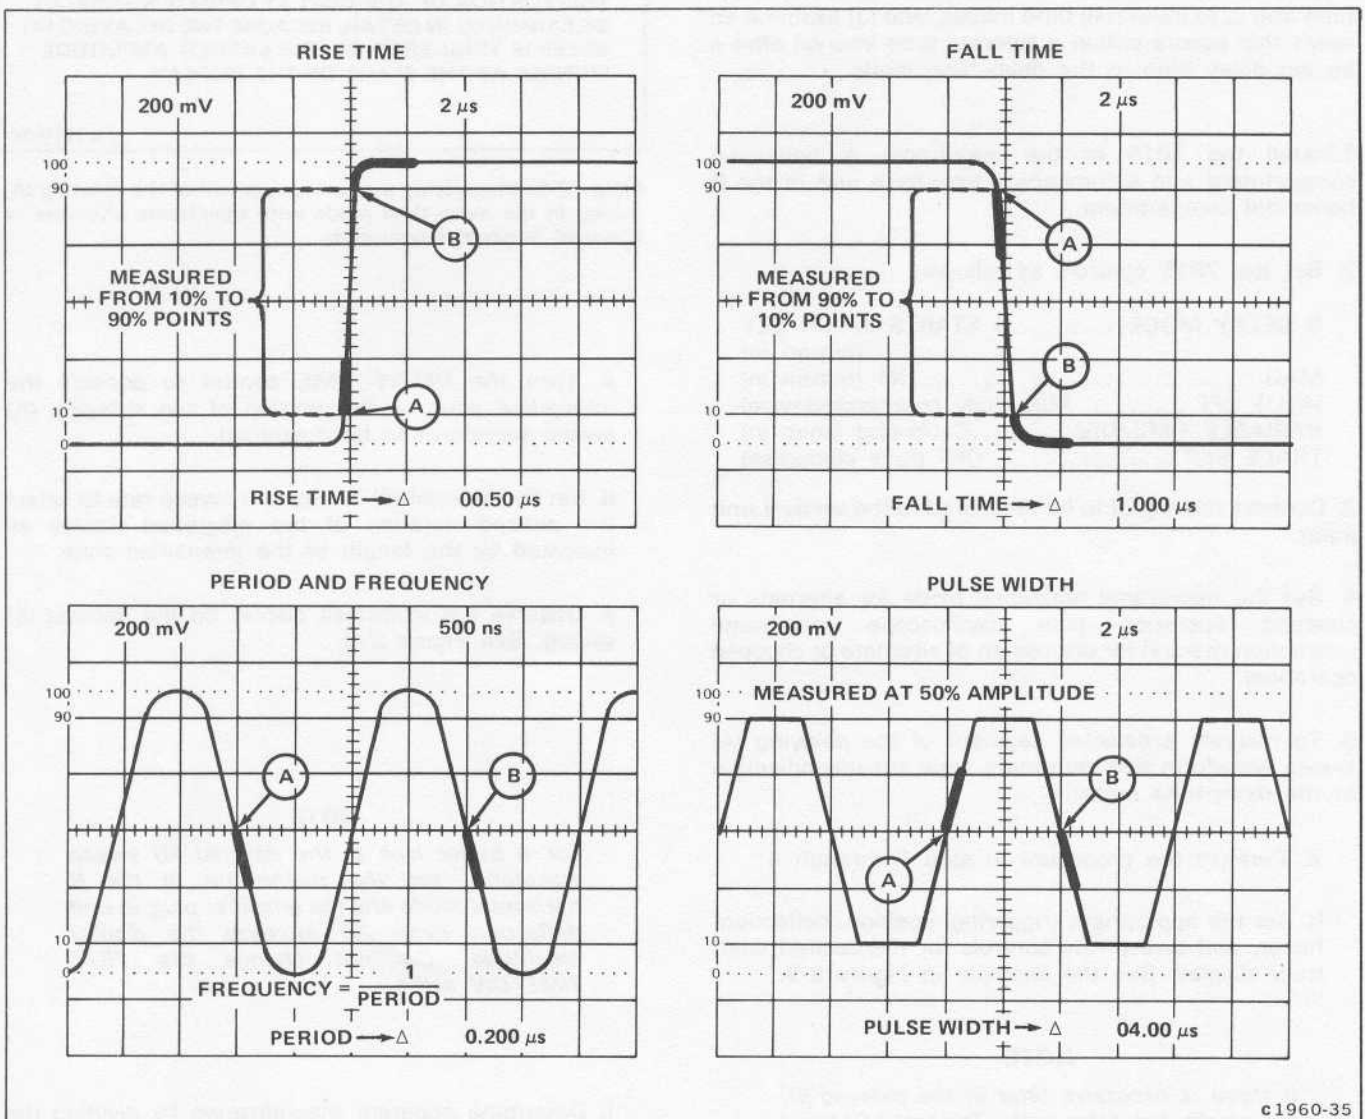

Figure 2-8. Measuring risetime, fall time, period, frequency, or pulse width in the Δ (differential) time mode.
6. Set the appropriate triggering, position, deflection-factor, and sweep-rate controls to obtain the desired display. See the examples in Figure 2-8.
7. Adjust the DELAY TIME control to position the leading edge of the first intensified zone to the beginning of the time interval to be measured (see Fig. 2-8, point A).
9. Adjust the Δ TIME control to position the leading edge of the second intensified zone to the end of the time interval to be measured (see Fig. 2-8, point B).